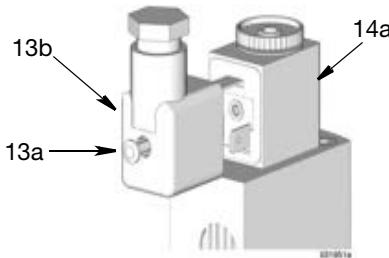

FIG. 25
4. Loosen screw (13a) on the back of the mini DIN solenoid connector (14a) and disconnect it from the solenoid connector (14a) (Fig. 25).